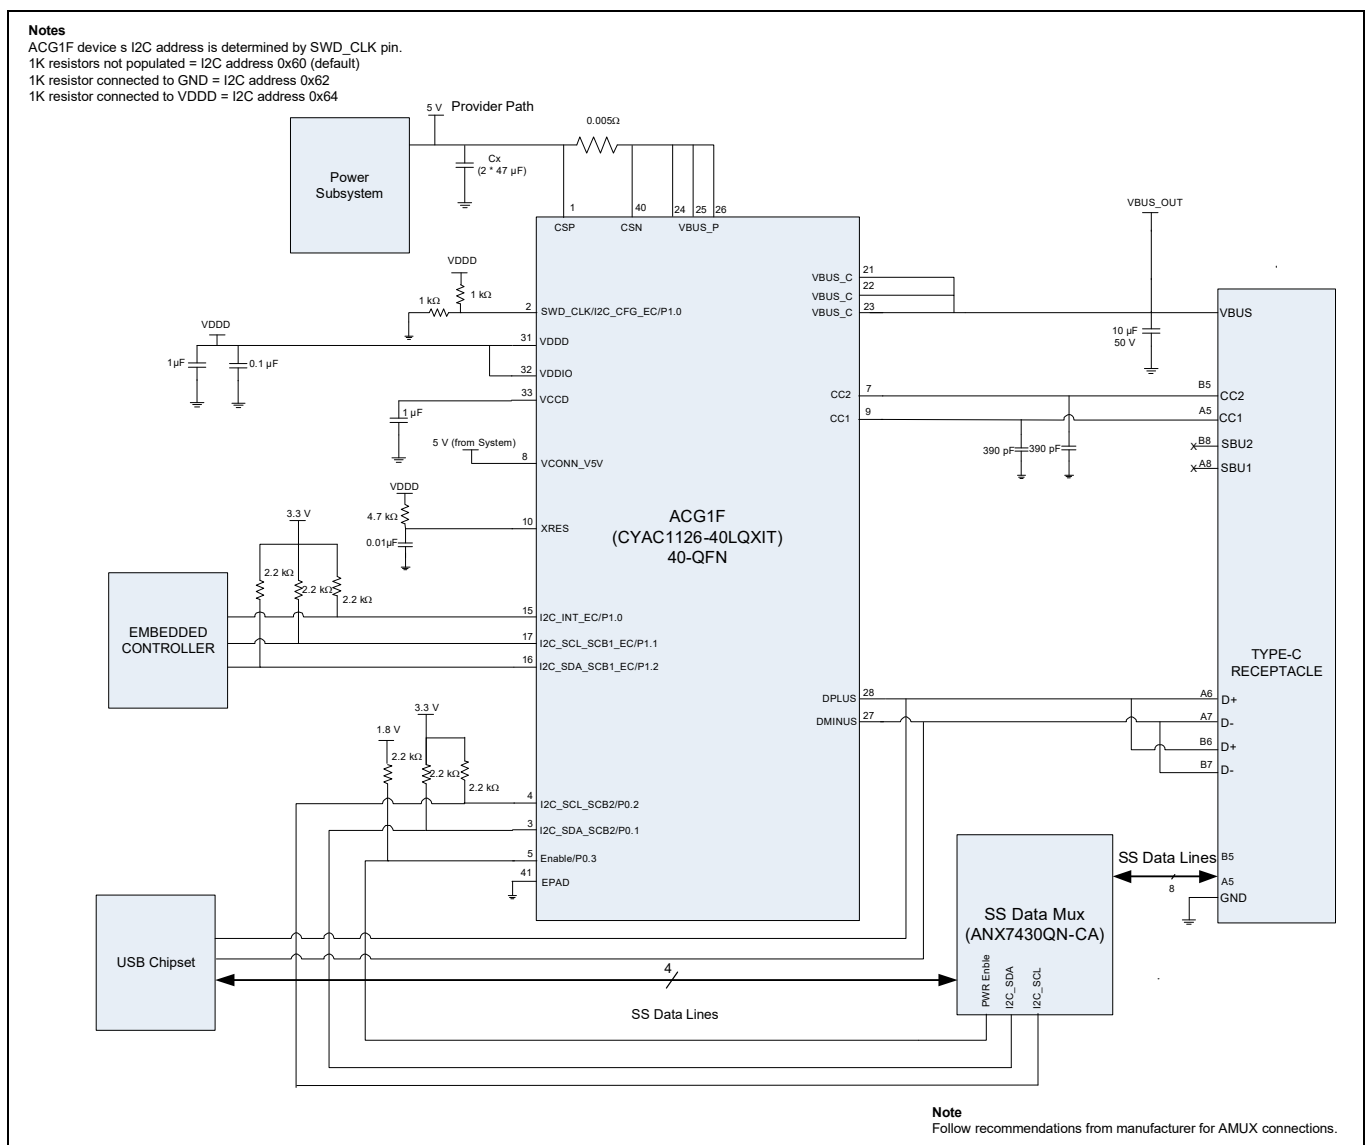

Figure 4-1 ACG1F in Single Port USB Type-C Notebook Application using CYAC1126- 40LQXIT
Figure 4-1 illustrates a Type-C port DFP application diagram using ACG1F. The Type-C port can be used as a Type-A to Type-C converter. The ACG1F device communicates with the embedded controller (EC) over I²C bus, which manages the ACG1F operation. It also updates external analog mux Controller via I²C to route the Super-Speed signals coming from the Type-C port to the USB host. The ACG1F device supports battery charger detection (BC 1.2) through USB 2.0 DPLUS and DMINUS lines of the Type-C receptacle which is connected to the controller and to the DPLUS and DMINUS lines of the USB Host controller. ACG1F offers VBUS Short protection on CC lines. The ACG1F device has integrated VCONN FETs for applications that need to provide power for accessories and cables using the VCONN pin of the Type-C receptacle. The integrated VBUS load switch is used for providing power over VBUS. The 5-mΩ resistor between the 5-V supply and provider FETs is used for overcurrent detection on the VBUS.
Figure 4-1 illustrates Single Port Type-C port DFP application diagram using CYAC1126-40LQXIT.